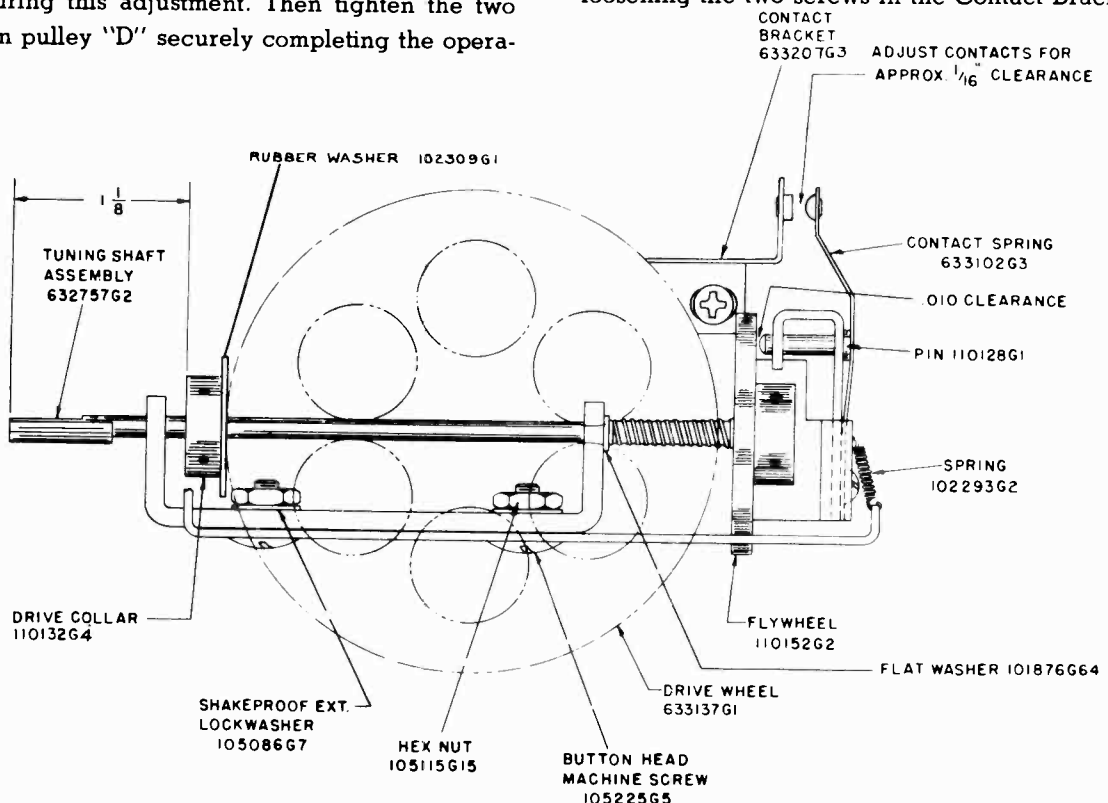

FIGURE 2
Whenever any of the mechanical parts in the condenser gang drive assembly require replacement due to rough handling or for any other reason, it is extremely important that clearances and adjustments shown on Figures 2 and 3 are correct; otherwise, the tuning mechanism will be sluggish or it may slip during operation.
1. Assemble the Tuning Shaft, Drive Collar, Compression Spring and Flywheel in the order shown on Figure 3. The distance between the front of the Drive Collar and the front of the Tuning Shaft must be  $\frac{11}{8}$  inches as specified on Figure 2. Install the Flywheel on the rear of the Tuning Shaft and slide it forward until it nearly touches the edge of the Drive Wheel; then tighten one of the set screws in the Flywheel hub. Insert a .010" gauge between the Flywheel and the Pin, and while holding the gauge in this position, loosen the set screw in the Flywheel hub that was previously tightened. The Compression Spring should force the Flywheel back against the gauge—when this occurs, tighten both set screws in the Flywheel hub.